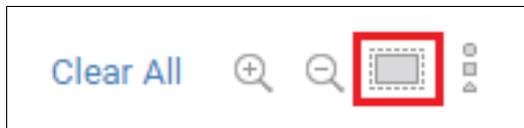

Figure 5-80 Reset View
4. Click **Reset View** in the upper right to recenter and resize the topology to fit in the view, as shown in Figure 5-80.